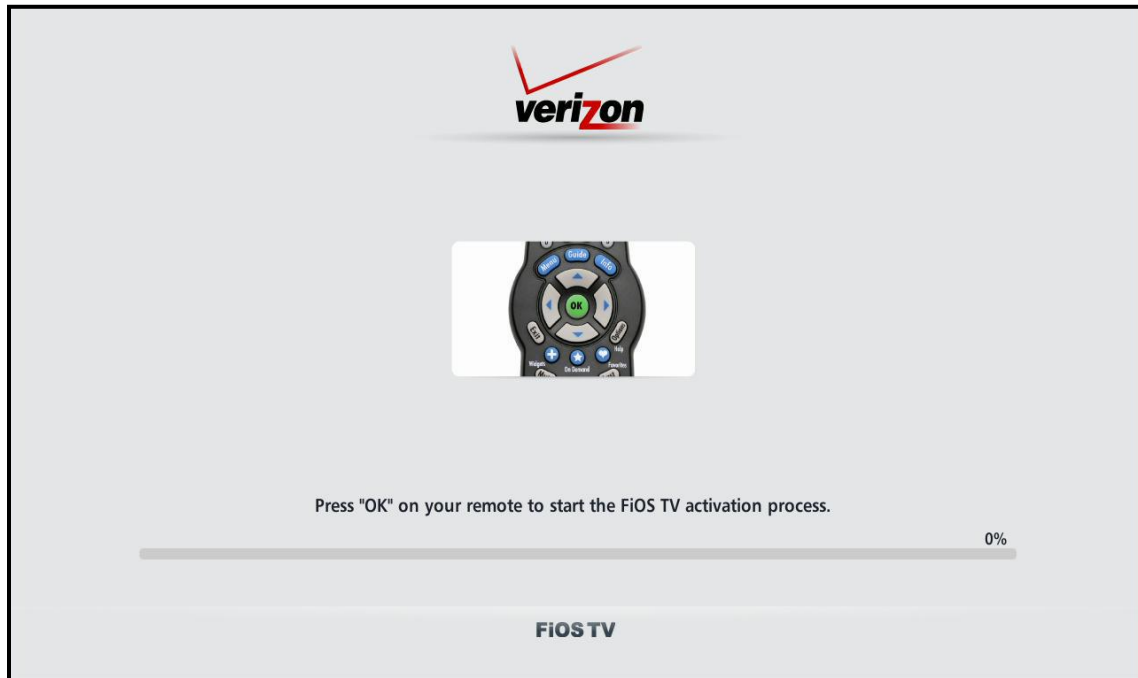

Figure 17 – Welcome Screen
2. Press **OK** on the VMS1100 remote control when the Verizon Welcome screen displays (see Figure 17).